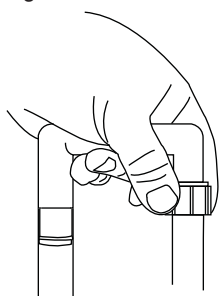

Fig 5
15. Force the hose over the hose tail on the U pipe. Tighten, hand tighten only no tools are required. Fig 5